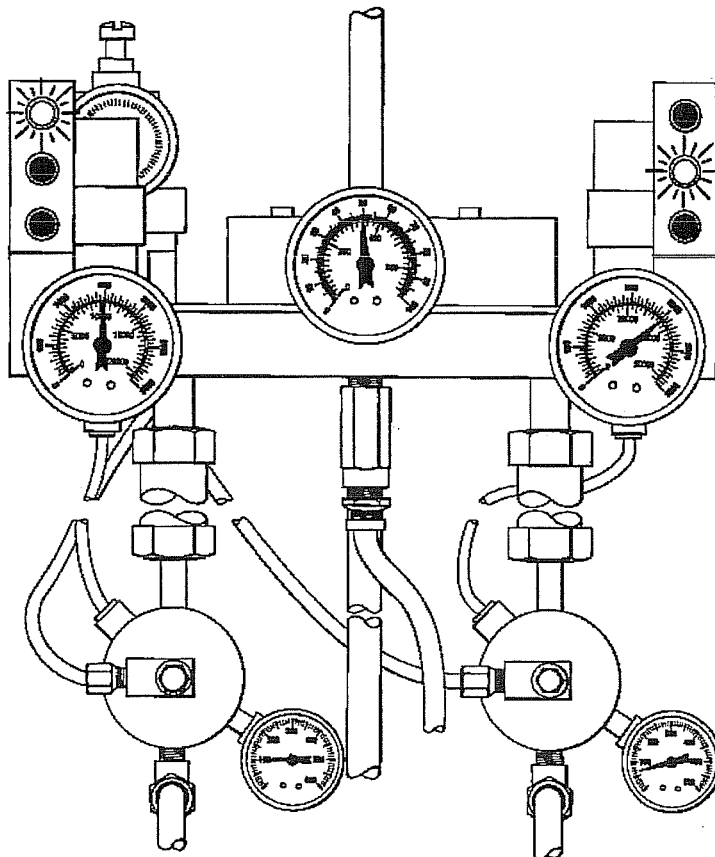

Figure 4-14
2. The manifold is in a normal operating condition when (Figure 4-14):